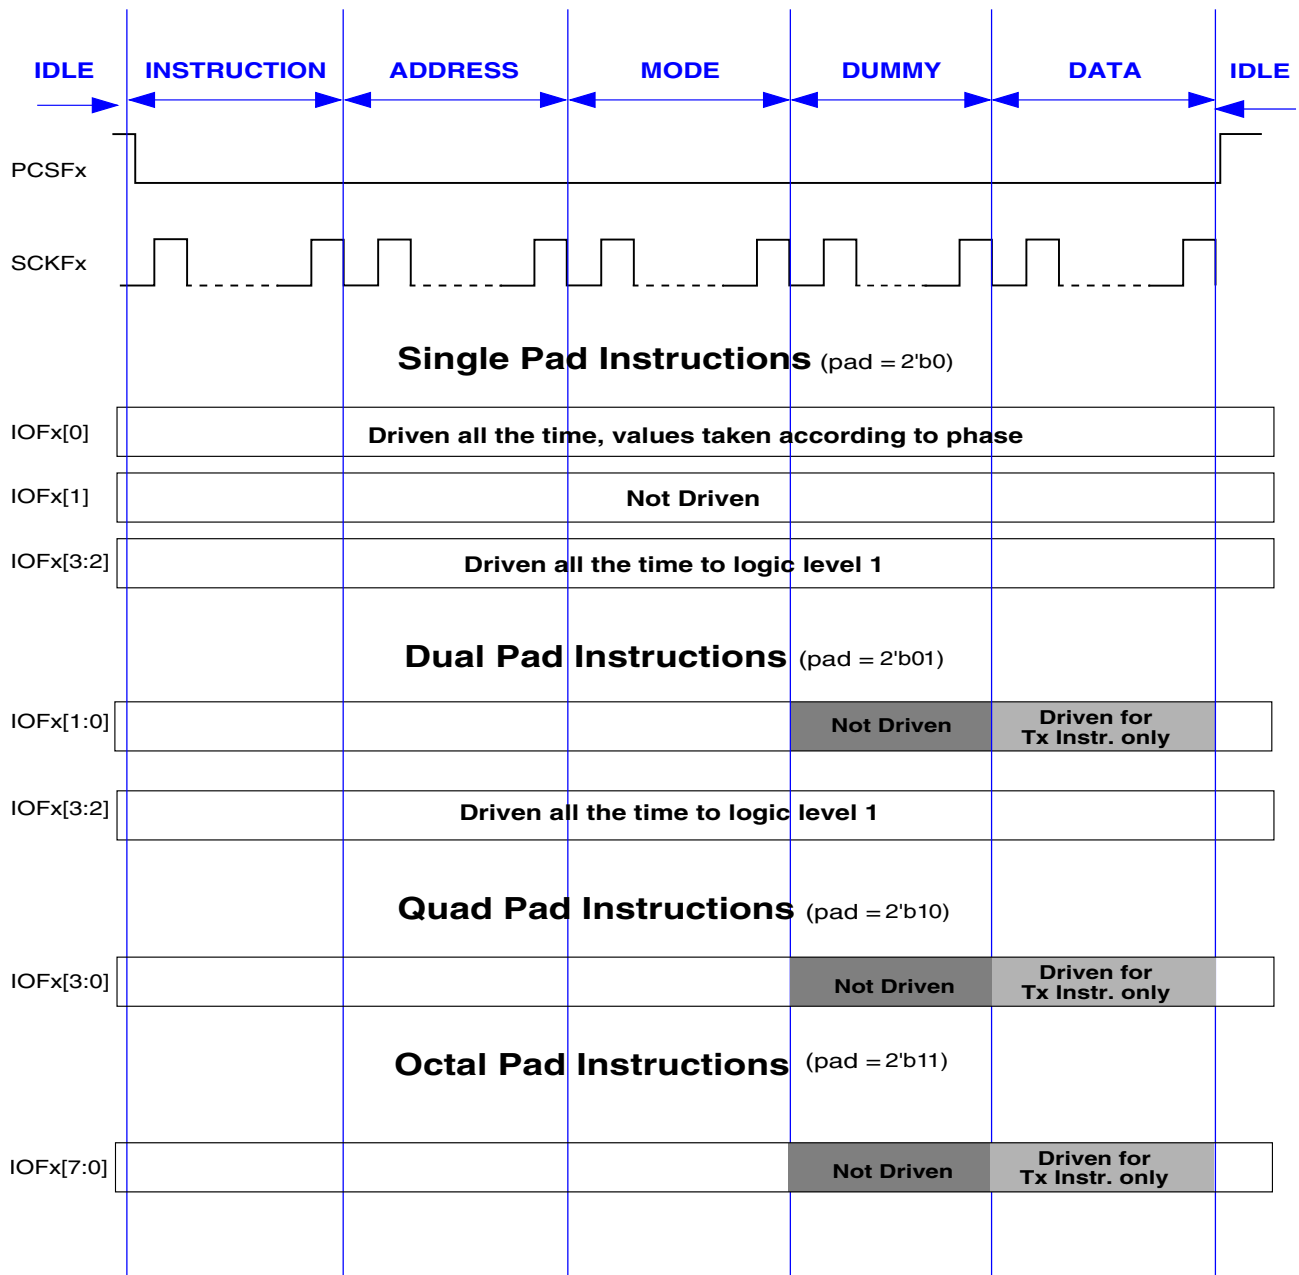

Figure 35-3. Serial Flash Access Scheme
- **DUMMY:** Dummy clocks are provided to the serial flash device. Refer to the Figure 35-3 for the IOFx signals driven. The actual data lines required for the SFM Command executed are not driven for data read commands. Note that this phase is not applicable for all SFM Commands.